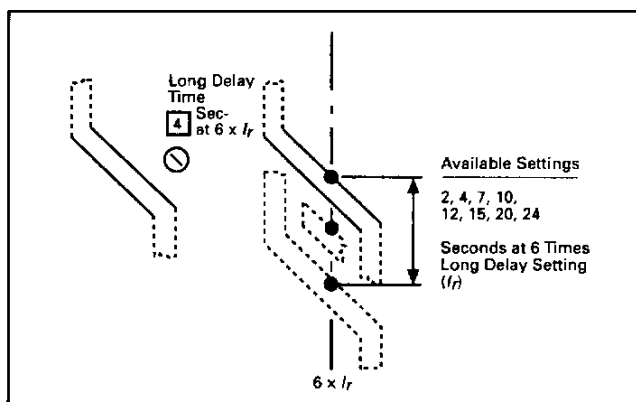

Fig. 8.2 Long Delay Time Settings
There are eight (8) available Long Delay Time Settings, as illustrated in Fig. 8.2, ranging from 2 to 24 seconds. These settings are the total clearing times in seconds, when the current value equals six (6) times I_r . The (LS) Time-Current Curve applicable for your circuit breaker gives complete details. (See Section 5.)